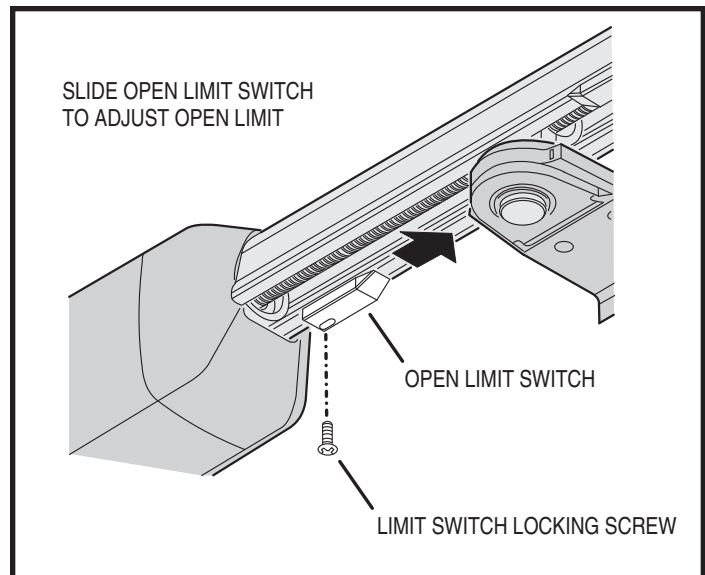

Figure 11. Open Limit Switch
1. To limit the *opening* travel of the gate for setup, loosen the locking screw on the open limit switch, slide the switch towards the center of the operator (see Figure 11).